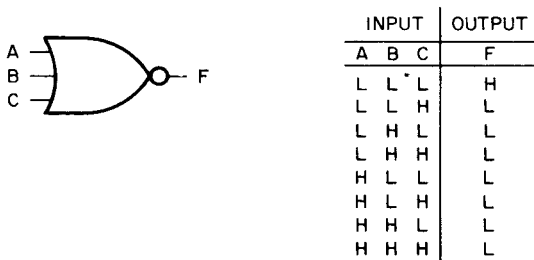

Figure 8-4 Symbol, NOR Function
- b. NOR—The symbol in Figure 8-4 represents one version of the NOR function. The output (F) is low if one or more of the inputs (A, B, and C) are high.